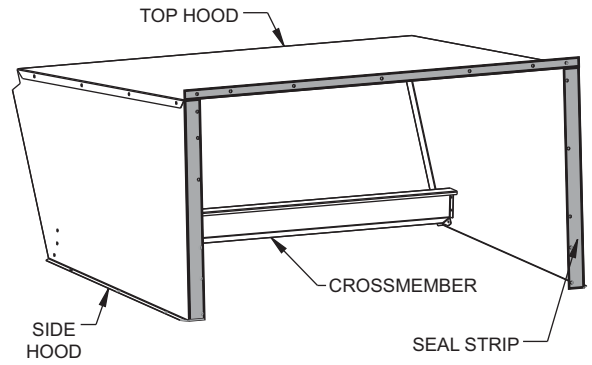

Fig. 23 — Adding Seal Strip to Hood Top and Side Hoods
5. Apply black seal strip (provided) to mounting flanges of hood sides being sure to cover mounting holes. See Fig. 23 for black seal strip application.
6. Apply black seal strip (provided) to back of hood top mounting flange. Seal strip of hood top mounting flange must press tightly against seal strip of hood side mounting flanges. See Fig. 23 for example of hood top and hood side locations.